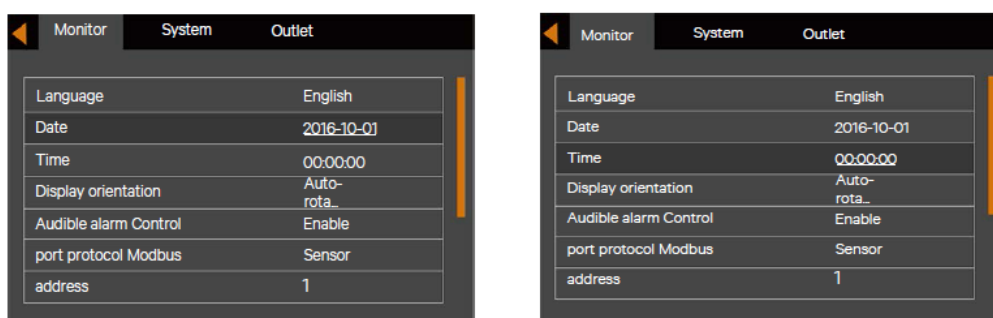

Figure 5-17 Changing date and time
4. Press the key, move the cursor and press the or key to change the date and time as required. See Figure 5-17.